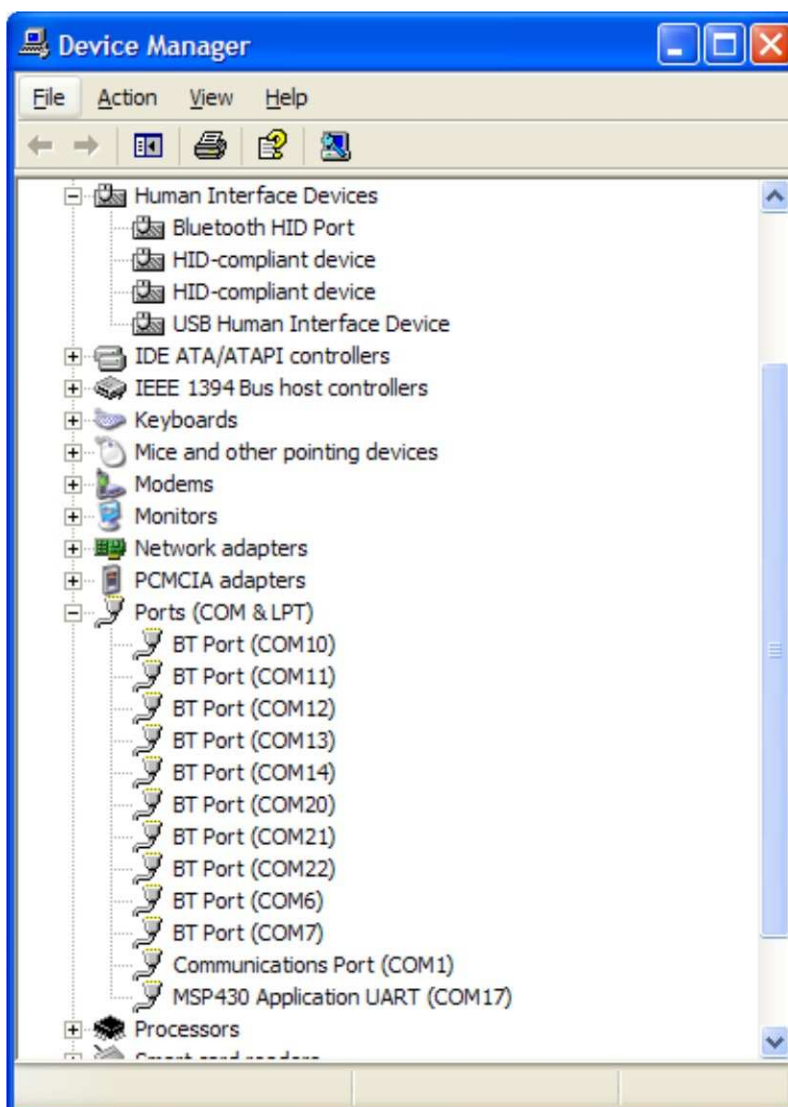

Figure B-10. eZ430-RF in Windows Device Manager as HID and COM Port Devices
5. The USB debug interface is installed and ready to use. The Windows Device Manager lists a new entries for a Human Interface Device and the MSP430 Application UART (COMx) (see Figure B-10).